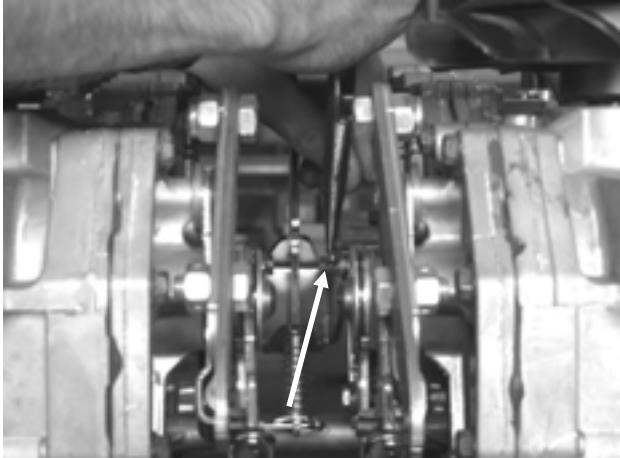

Figure 65
12. Using needle nose pliers, remove the cotter pin securing the brake yoke to the brake lever **Figure 65.**